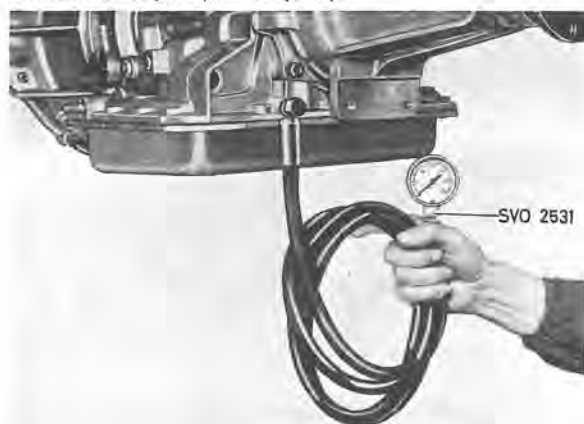

Fig. 4-71. Connecting pressure gauge
1. Connect a tachometer to the engine and pressure meter to the transmission as shown in Fig. 4-71.
2. Chock the wheels and apply the brakes. Start the engine and move the lever to "D". Read off the pressure at 500 and 1000 r.p.m. At 1000 r.p.m. the gauge to the transmission as shown in Fig. 4-71. pressure should be 15–20 p.s.i. (1.1–1.4 kp/cm²)* higher than at 500 r.p.m. If the pressure rise is less than 15 p.s.i. (1.1 kp/cm²), the effective length of the outer cable should be increased by means of the adjuster. Conversely, if the rise is more than 20 p.s.i. (1.4 kp/cm²) the effective length of the outer cable should be decreased.